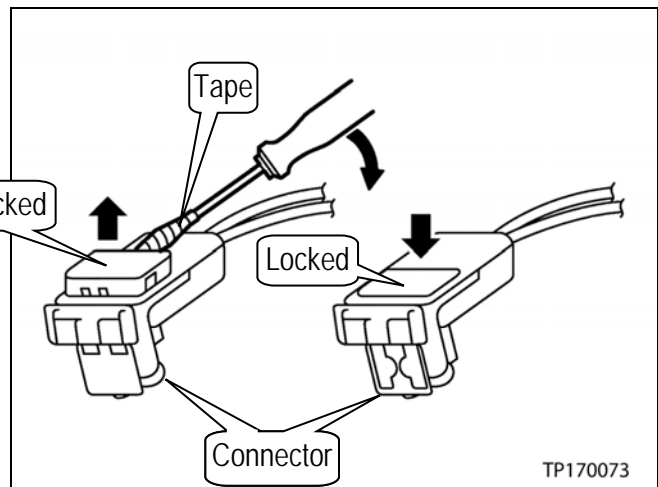

Figure 52
- When removing the passenger air bag module electrical connectors, insert a suitable tool wrapped with tape, lift the lock, and then remove the connector (see Figure 52).